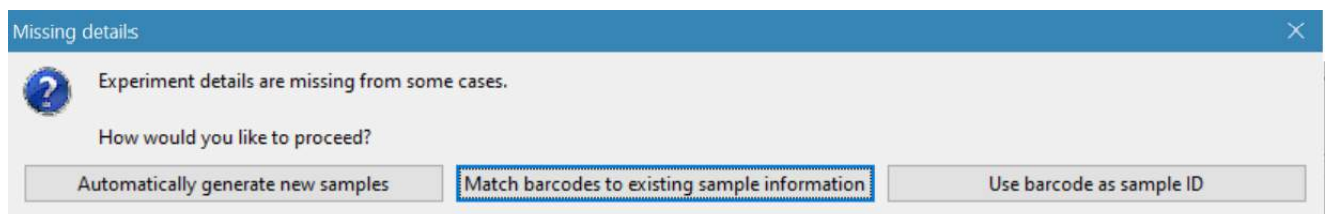

Figure 2: Missing details message window
4. Upon pressing **Start**, the system should display a message (see Figure 2), which asks how you would like to associate the generated experiments to a sample. For details on these options, see the Associate feature extracted files with samples section.
5. If following the high-throughput approach and Sample IDs have not yet been assigned, then the system should display a message (see Figure 2), which asks how you would like to associate the generated experiments to a sample. For details on these options, see the Associate feature extracted files with samples section.
When samples have been specified using the Auto-detect files section, upon pressing **Start**, the system should display a message (Figure 2) which asks **How would you like to associate the generated experiments to a sample?** or **Experiment details are missing from some cases, how would you like to proceed?**. This option box is also displayed when the **Process** button is chosen on the Manually specify files section.
The standard method for the medium-throughput strategy is to add files for processing using the Manually specify files section. Once files are present in the **Files to be processed** table, double-click on each row in the list to bring up the **Sample Details** window, which is used to specify the Sample ID and Reference ID. Alternatively, if no data regarding the samples has yet been added to the database, for convenience during validation (but not common use) choose the **Process** button to bring up the **Missing Details** window (Figure 2). The **Automatically generate new samples** option would be used if you wish the software to randomly generate sample IDs. Alternatively, the option **Use barcode as sample ID** can be used to create new samples using the barcode as a sample ID.
The **Overview** section (Figure 2) displays all CNV probe and aberration data for either the selected chromosome or the whole genome (as chosen in the **Chromosome Navigation Toolbar** [Figure 5]):
The **Overview** section contains a chromosomal diagram at the top (or, if the graph represents the whole genome, numbered blocks represent chromosomes). The graph directly below this diagram indicates probes and CNVs across the chromosome (or genome). Probes are displayed as circles on the graph, positioned according to the normalised, base-2 log ratio of the signal intensity of the probe in the sample against that of the reference. Detected CNVs are displayed as shaded blocks (or horizontal bar if zoomed out) in the location of detection. The colour of the block represents the colour of the sample. In Figure 2 there are two detected CNVs on 2q. Only one sample is shown, which is blue in colour.
Clicking on a chromosome or one of its karyotype bands (in the top diagram) will highlight the area, surrounding it in a dotted box (as seen in Figure 2 near q14.3). Alternatively click and drag on the graph to manually highlight a region. The highlighted region will be displayed in the **Chromosome Section**.
Figure 2: Overview section of Genomic View showing probe data and detected CNVs for chromosome 2. Blue dotted box indicates which chromosome portion is displayed in the Chromosome Section. The shaded blue sections indicate detected CNVs.